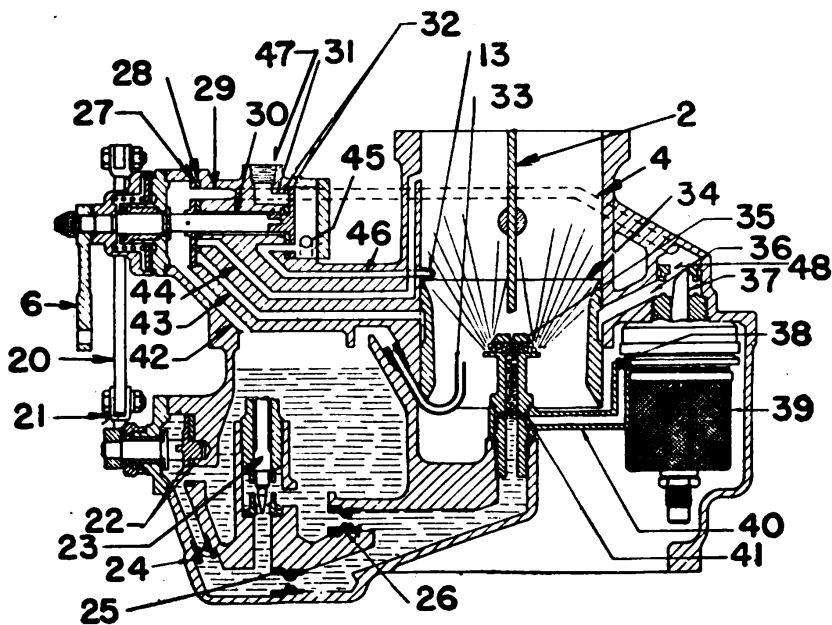
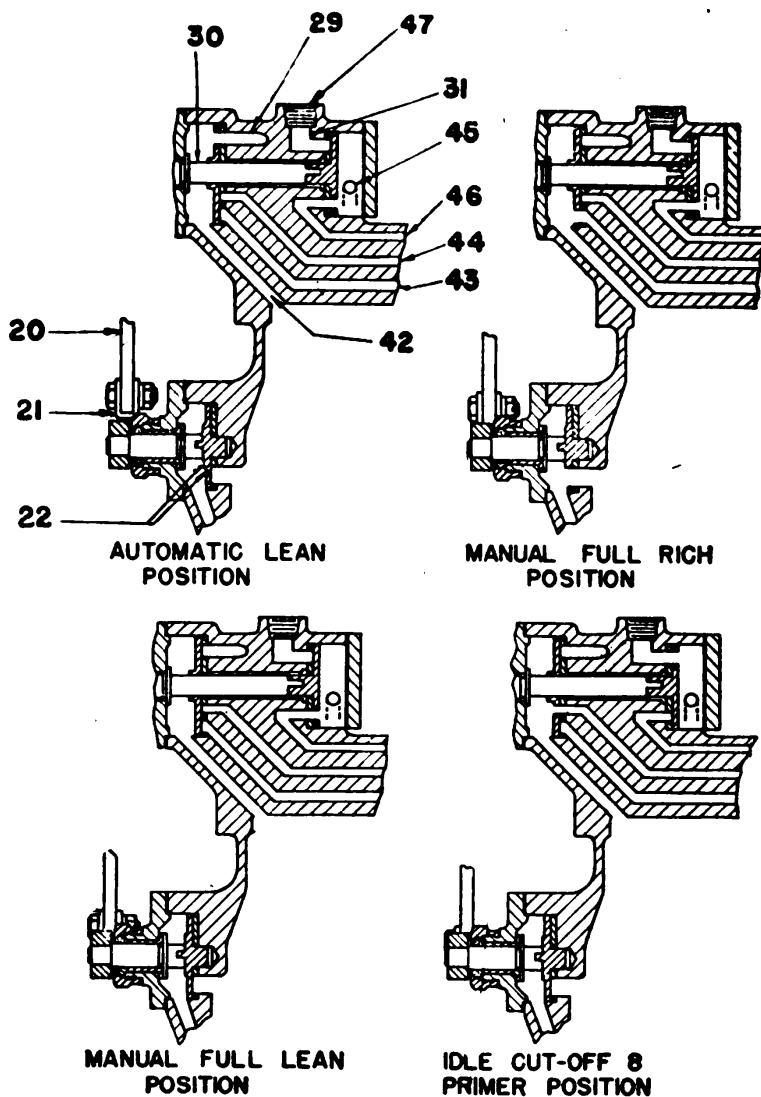
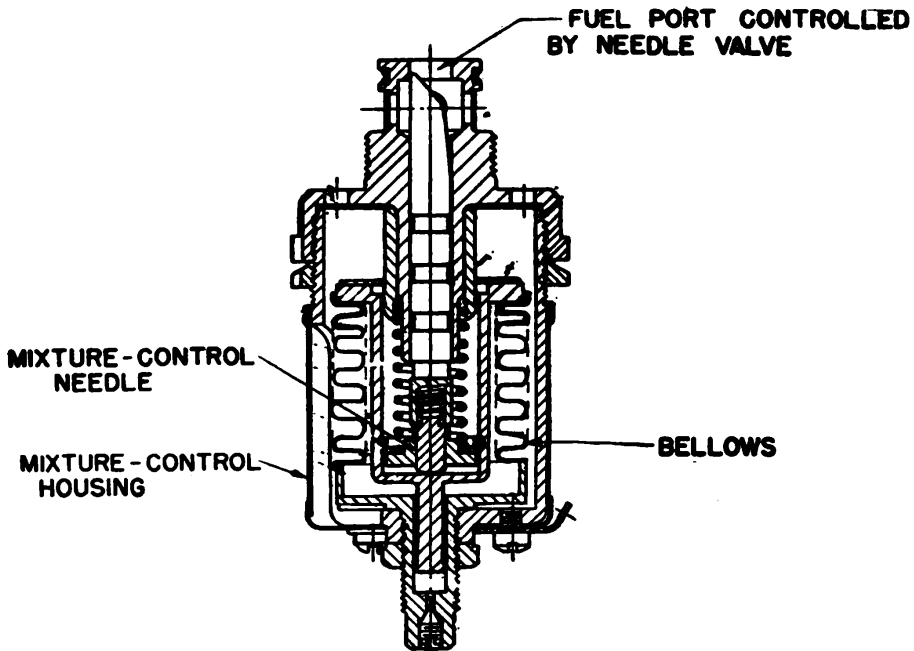

Figure 62.—Diagram of mixture control and cruise valve, Stromberg carburetor NA-R9C2.
Figure 63.—Mixture-control and cruise-valve position.
Figure 64.—Automatic mixture-control unit.
The NA-R9C2 carburetor is equipped with a back-suction type mixture-control system. In this system, as was explained previously, the suction existing in the venturi is utilized to decrease the fuel flow at altitude by applying a part of the suction on the top of the fuel in the float chamber to counteract the suction of the venturi on the main-discharge nozzle. The MANUAL-CONTROL SYSTEM, figure 62, consists of the operating lever; two valve plates, one of which is fastened in the body and the other is free to move; a suction nozzle that extends into the venturi, and has its open end at approximately the same height as the main discharge nozzle; and the necessary connection passages.
#### PARTS SHOWN IN FIGURE 62
PARTS SHOWN IN FIGURE 63
When the manual-control lever is in the full-rich position the slots in the two plates mate, allowing air to flow from the vent space between the venturi tube and in the carburetor barrel through the mixture-control passage No. 3, and the mating holes in the plates, into the channel No. 2, and thence out through the suction nozzle—see the detail of the mixture control in figure 63.
The construction of the AUTOMATIC-CONTROL unit is shown more clearly in the enlarged sectional view, figure 64. Refer to both this illustration and figure 62 while reading the explanation of the operation of this device. The unit consists of a tapered needle that is operated by a sealed bellows. The functioning of the bellows depends upon the density of the air entering the carburetor, which varies with temperature as well as pressure. The bellows is filled with nitrogen which responds to changes in temperature and pressure of the air, and oil which serves to dampen the tendency of the flexible metallic bellows to vibrate. As the density of the air changes, the bellows expands or contracts, and moves the tapered needle in its seat. This changes the size of the orifice into which the
sage No. 2, figure 62, through the mating openings in the two valve plates and a passage—referred to as the automatic mixture-control passage in the illustration—the opening between the control-valve needle and its seat, and the inclined passage at the left of the control needle, which terminates in the space around the outside of the venturi tube. When the bellows expands it raises the needle valve and moves the tapered portion farther into its seat, thus restricting the air passing from the air space back of the venturi, and bringing about a reduction in the pressure on the fuel in the float chamber.
The idle cut-off as used on the NA-R9C2 carburetor is a part of the mixture-control system. When the control lever is placed in the idle cut-off position, holes in the two mixture-control plates, figure 62, line up so that the high suction existing above the throttle acts directly on top of the fuel in the float chamber by means of the idle cut-off passage. You will observe in the illustration that the idle cut-off passage leads from the holes in the plates to a point above the throttle-valve shaft. When the throttle valve is closed the suction on the float chamber stops the flow of fuel through the idle-discharge nozzle, and the engine will cease firing.
In figures 62 and 63, you will see a so-called cruise valve, which is operated by a link connected to an arm on the mixture-control shaft. This valve allows a selection of a lean mixture for maximum economy for cruising, and a richer mixture for climbing and maneuvering. The cruise valve consists of two plates, similar to those used in the mixture-control, and a metering jet. As you will see in either illustration the cruise-valve unit is located directly below the mixture control, and is connected up in such a way that, when the mixture-control is in any position except the automatic-lean position, the holes in the cruise-valve plates line up, as shown in figure 63, view (B).
matic-lean position, the hole through the cruise-valve plates is closed, and a leaner mixture is obtained for economical cruising power. This is the position shown in figure 63, view (A).
There is still another device shown in figures 62 and 63—the PRIMER system. This system is also tied up with the mixture-control system, as it is operated by an extension of the control shaft. When the mixture-control lever is in the primer position, the primer valve opens the priming-valve passage 31, so that fuel from the channel 45, which was discharged by the accelerating pump, will go out of the tapped opening on the top of the mixture-control housing. In all other positions of the priming valve, the fuel is discharged through the accelerator-pump discharge passage 46, to the nozzle 13, in the carburetor barrel.